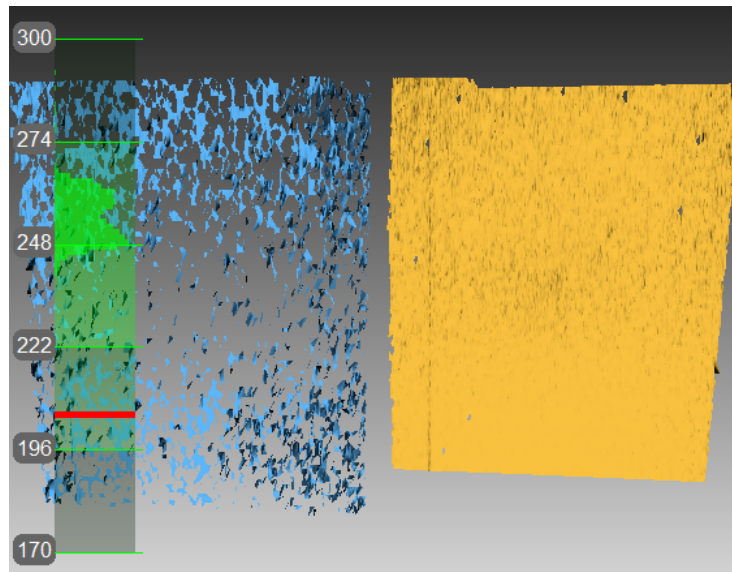

Figure 133: Artec Spider correction results.
In some cases, owing to careless handling or transportation (jolts, accidental drops or some other reason), the scanner may fail to capture surfaces properly. The scanned surfaces may only be partially reconstructed or may contain holes (for example, the results of bad reconstruction are noticeable on the blue surface in Figure 133). You can resolve these issues by correcting or calibrating the scanner.
9. Repeat Step 8 three more times. Once you finish, the calculation will start. A yellow plane that corresponds to the surface you captured using the corrected calibration settings will then appear in the *3D View* window (see Figure 133).